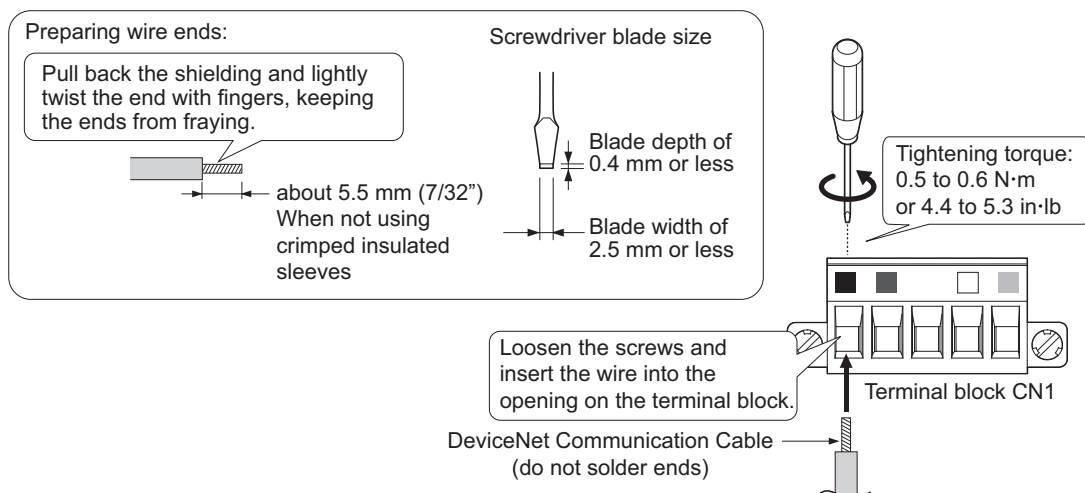

Figure 24 Connect Cable Wiring
2. Connect the communication cables to the terminal block as shown in **Figure 24**. When attaching the CN1 connector plug on the terminal block to the socket, make sure the screws on the left and right sides of the plug are tightened with a tightening torque of 0.5 to 0.6 (N·m) or 4.4 to 5.43 (in·lb).